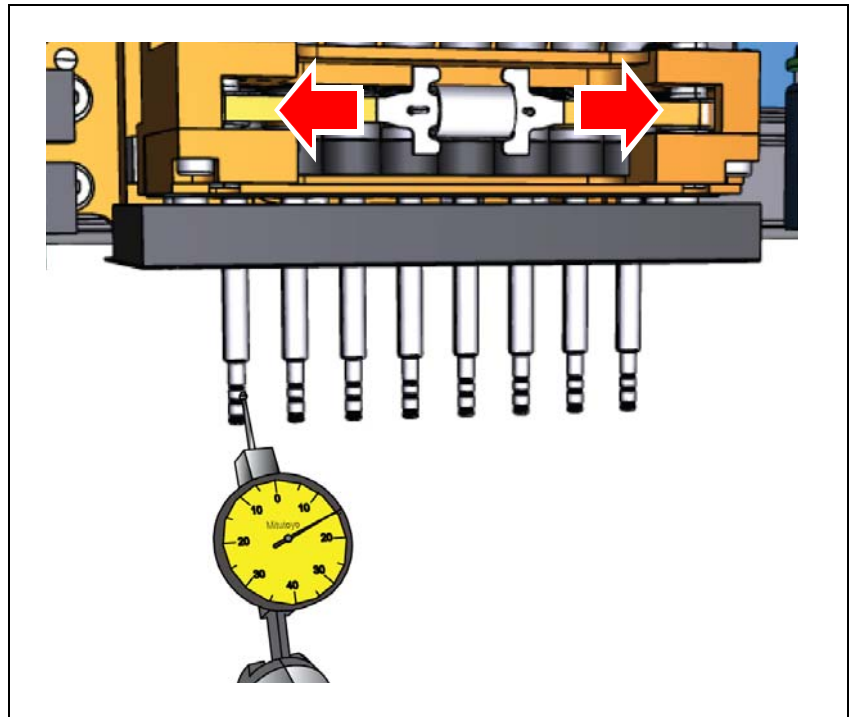

Figure 6-27. Position the dial indicator at HYDRA tool 1.
16. Move the X wagon back to HYDRA tool 1 and turn the tools (by moving the mylar tape back and forth, see top of Figure 6-27) until the indicator shows a value in the middle of the tools eccentricity range. Make a note of the received value.